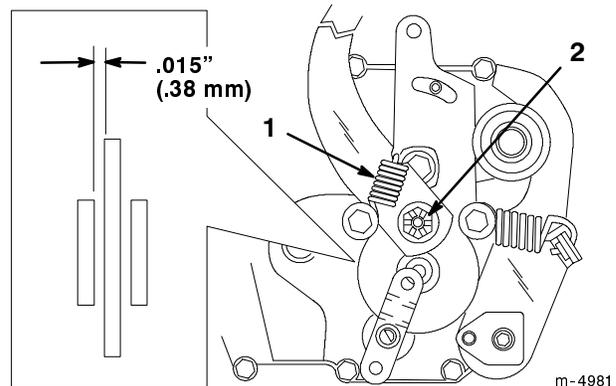

Figure 16
The brake is on the right side of the rear axle, inside the rear tire (Fig. 16). If the parking brake does not hold securely, an adjustment is required.
2. Remove the brake arm spring (Fig. 16).
3. Remove the cotter pin securing the brake adjusting nut and slightly loosen the nut (Fig. 16).
4. Insert a 0.015" (.38 mm) feeler gauge between the brake disc and brake puck (Fig. 16). Tighten the nut until slight resistance is felt on the feeler gauge when sliding it in and out.